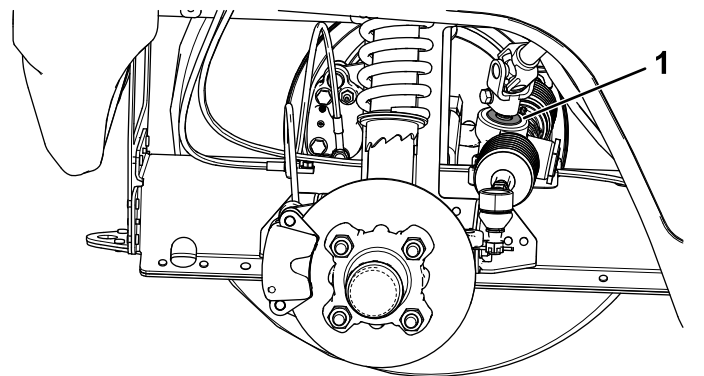

Figure 53
- Important:** Inspect the condition and security of the pinion-shaft seal (Figure 53).